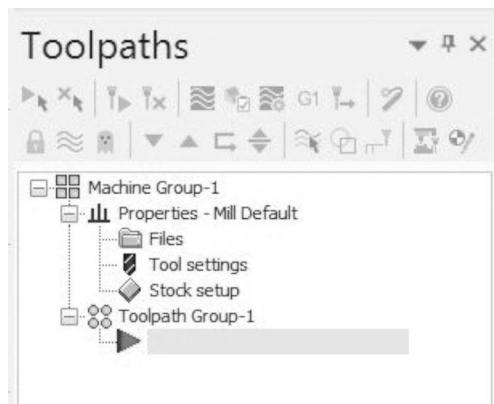
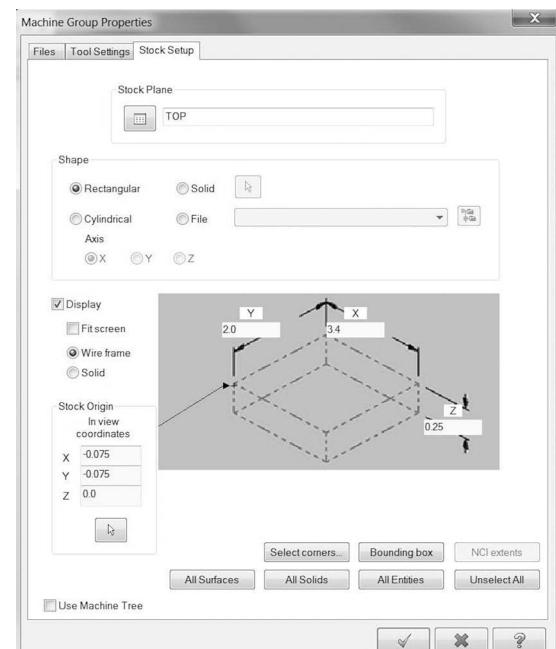

Figure 5-13 Machine Group Properties
Figure 5-14 Machine Group Properties,
- To access the Stock setup dialog, left-click on the plus sign next to Properties—Mill Default in the Operations Manager, as shown in Figure 5-13. Then left-click on Stock setup to access the dialog displayed in Figure 5-14.
Explanations are given below for each item in the Machine Group Properties dialog in Figure 5-14 that will be used in this example.